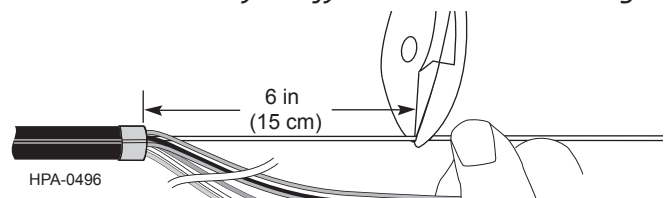

Figure 8
**Step 2:** Use side cutters to cut the dielectric central member to a length of 6 in (15 cm) (Figure 8).